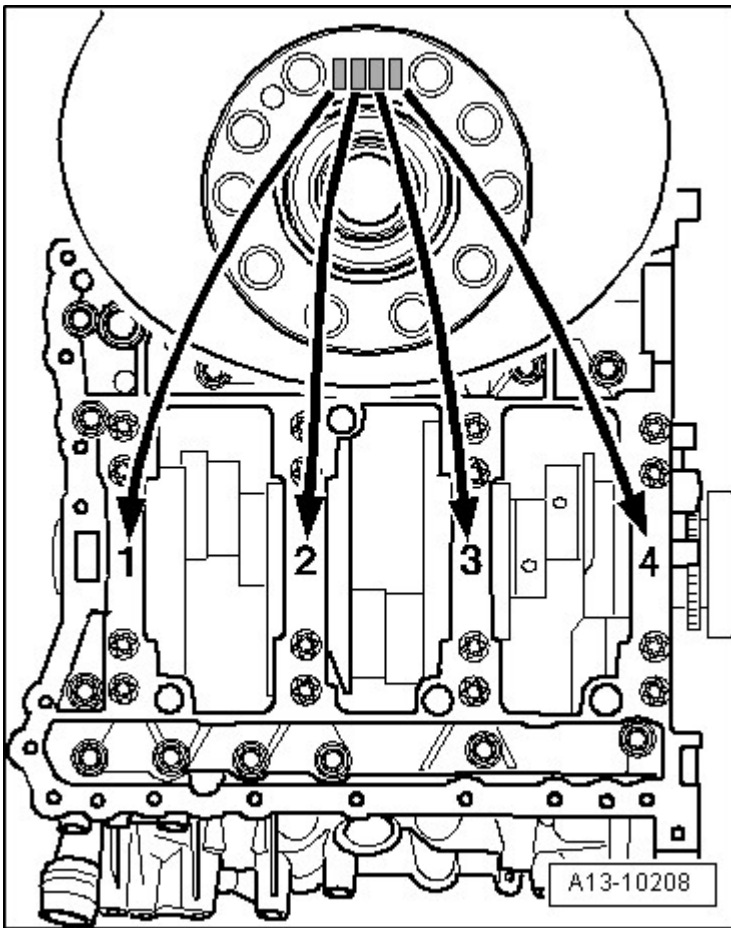

Fig. 10: Identifying Crankshaft Bearing Shells
- Insert new bearing shells for guide frame with proper color marking, refer to **Fig. 10**